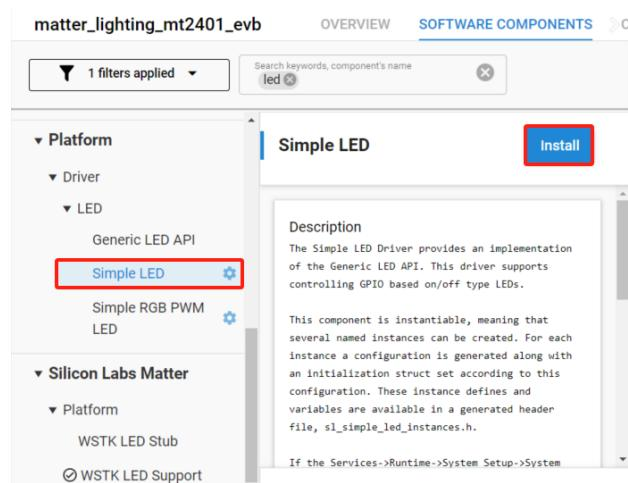

Figure 5.8
- 3) Install the "Platform -> Driver -> LED -> Simple LED" component, as shown in figure 5.8